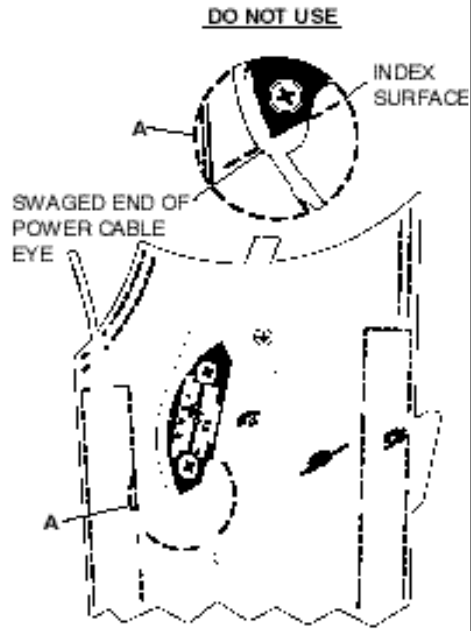

FIGURE 4.
- (2) Refer to Figure 4. If the end of the eye does extend past the index surface, then something is wrong with the cable routing, or the power housing (conduit) may be damaged. The power cable assembly should be removed from service immediately.